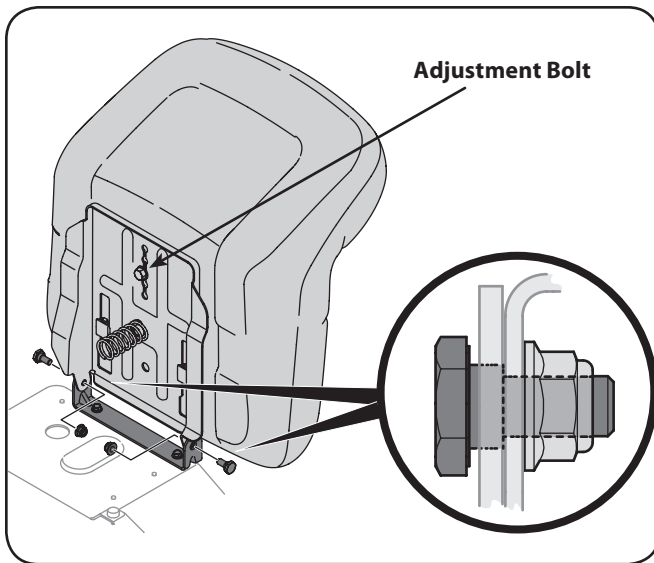

Figure 3-7
6. Install the two shoulder bolts and lock nuts removed from the seat mounting bracket in Step 1. See Figure 3-7.
- To adjust the position of the seat, loosen the adjustment bolt on the bottom of the seat. Slide the seat forward or backward as desired. Retighten the adjustment bolt. Refer to Figure 3-7.